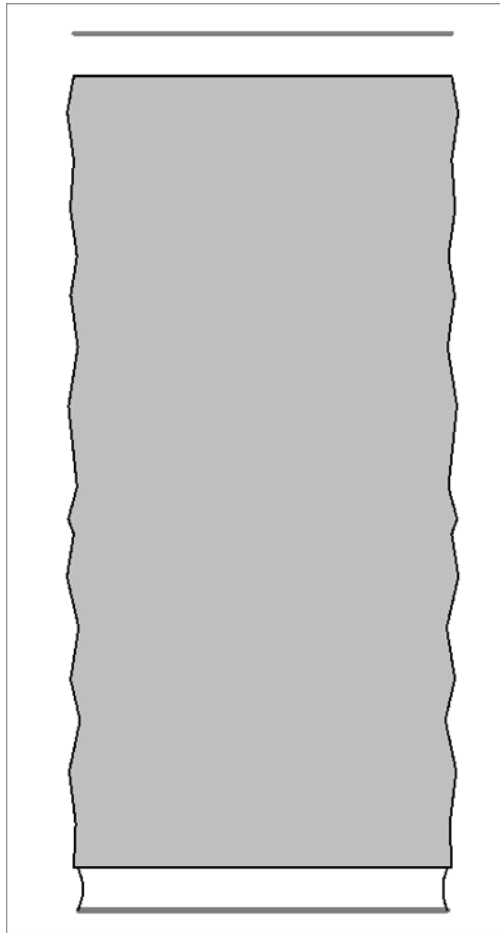

FIGURE 12.28 The solid pattern covers the previous pattern. You'll fix this in a moment.
14. On the Mode panel, click Finish Edit Mode, and then press Esc. Your brick should look like Figure 12.28.